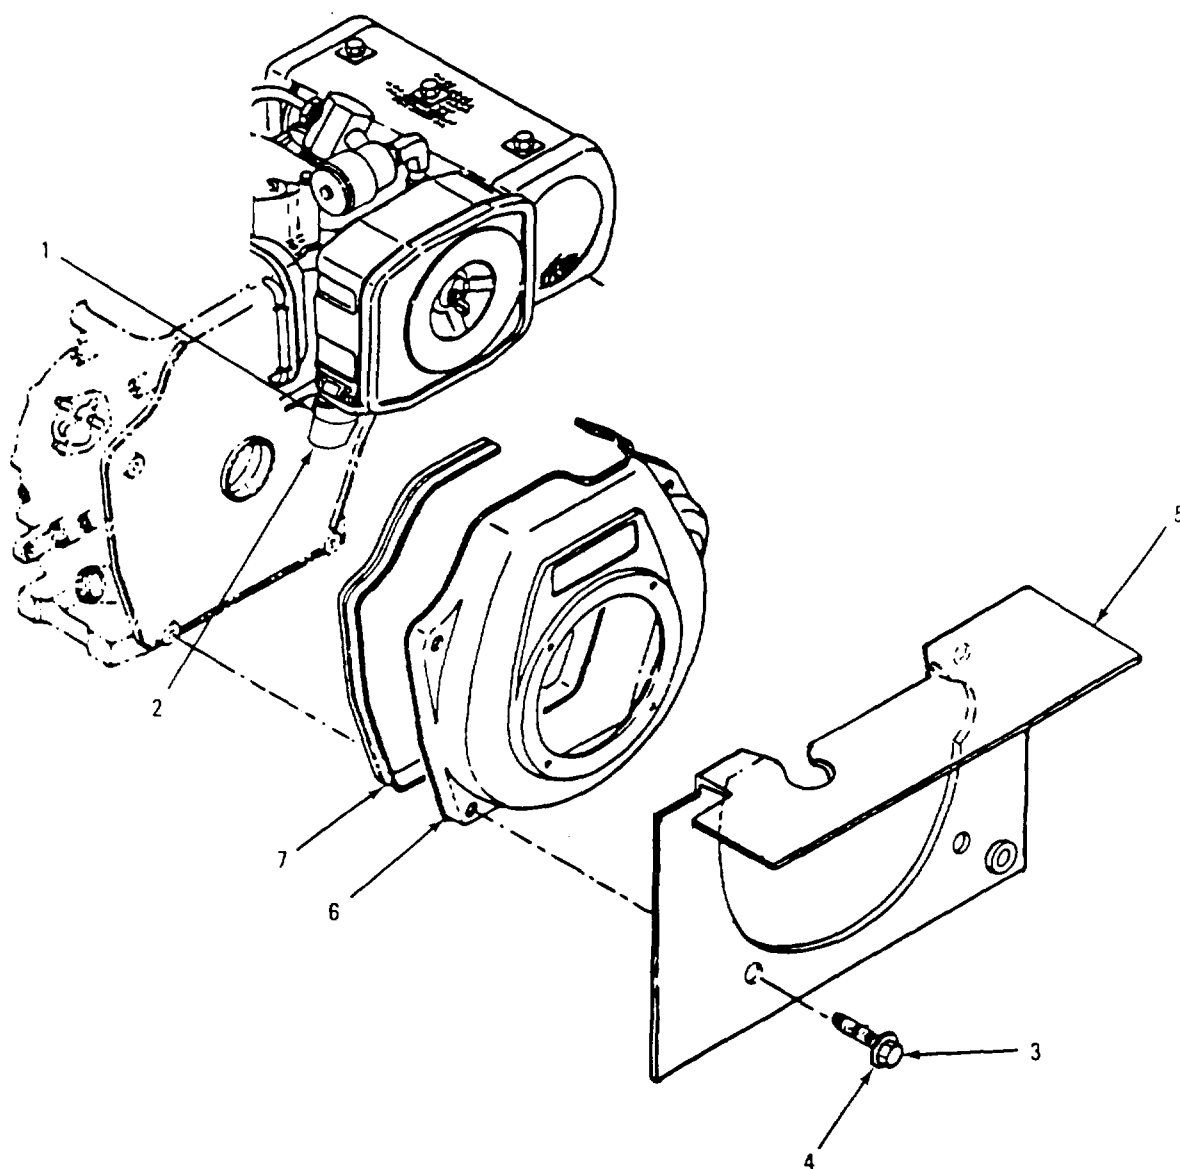

Figure 4-21. Cooling Case Cover
a. Removal. (Refer to Figure 4-21)
- (1) Loosen clamp (1) and remove air inlet hose (2).
- (2) Remove four bolts (3) and washers (4) that attach air flow baffle (5) and cooling case cover (6) to engine.
- (3) Remove air flow baffle (5), cooling case cover (6), and cooling case cover seal (7).